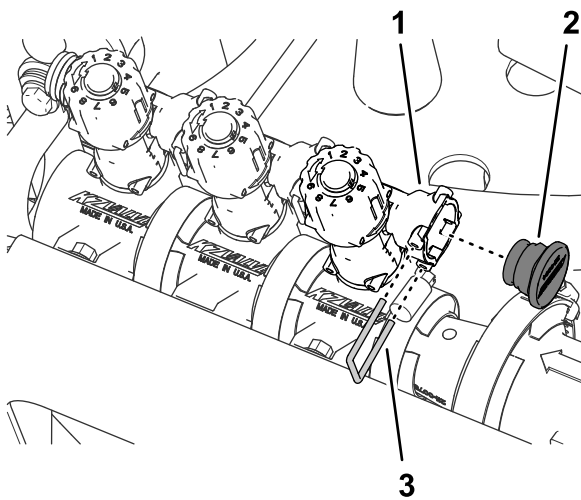

Figure 65
8. Assemble plug into the quick connect socket of the bypass valve (Figure 65).
9. Secure the plug to the quick connect socket with the retainer that you removed in step 3 (Figure 65).